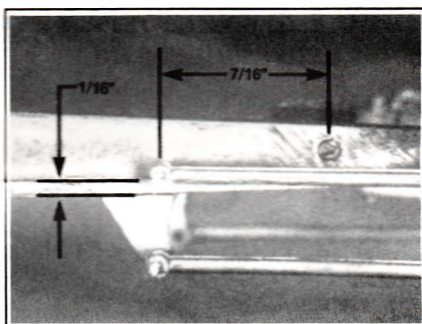

Figure 7
F. Drill a .032" (No. 67) hole through the four-bar mounting bracket, and test fit the four-bar links. Drill a .032" (No. 67) hole through the frame rail for the upper bar, approximately .4" (7/16") behind the engine mount hole and .06" (1/16") above the bottom edge of the frame rail. Glue the brackets to the frame using the four-bar links as a "jig". See Figure 7.